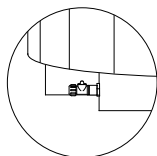

Figure 13.5a
2. Locate the hose bib, at the bottom of the hot tub, Figure 13.5a. Make sure that the valve is in the OFF position.